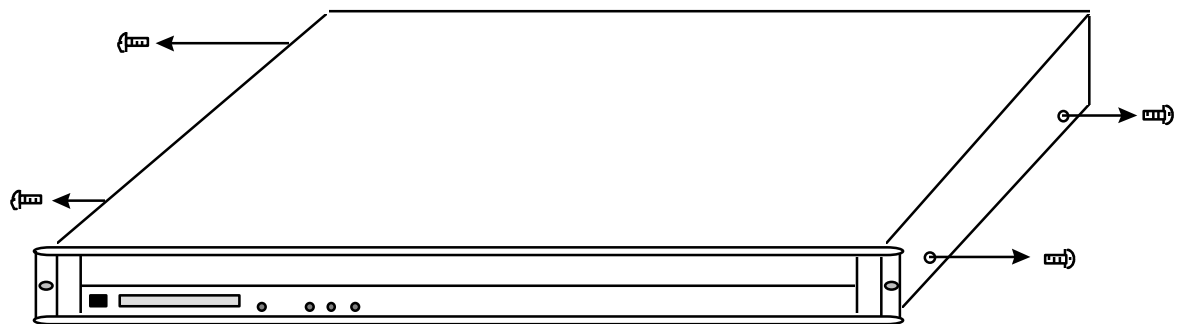

Figure 31 - Removing the Screws Securing the Cover
- Remove the four screws that secure the cover on the MAXserver, using a Phillips-head screwdriver (see Figure 31). Put the screws in a safe place. Then, lift and remove the cover.
3. Pull the SIMM toward you, then up. (Basically, you reverse the steps shown in Figure 31.)